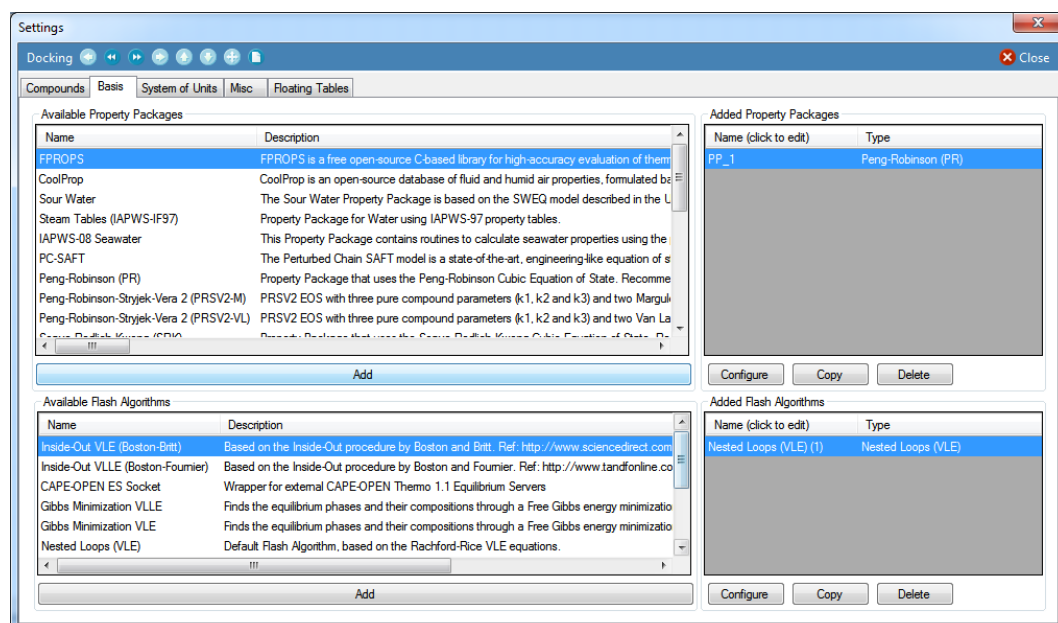

Figure 5: Property Package configuration interface.
**Property Packages** The Property Package consists in a set of methods and models for the calculation of physical and chemical properties of material streams in the simulation. It is composed of a thermodynamic model - an equation of state or a hybrid model - and methods for property calculation, like the surface tension of the liquid phase. The figure 5 shows the interface for configuration of the property package.